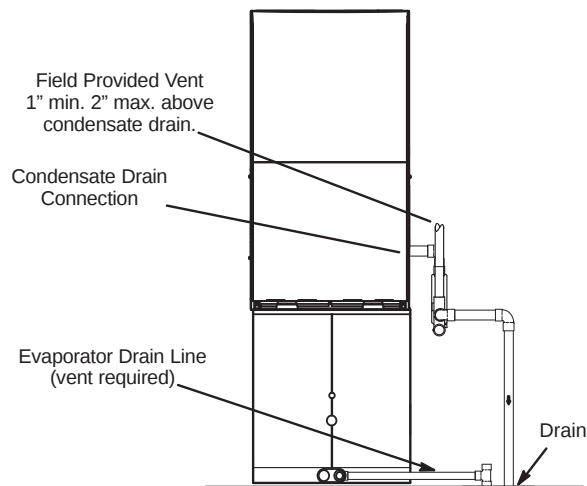

Figure 41. Unit with Cooling Coil Using Separate Drain
5. **Figure 41** shows the furnace and evaporator coil using a separate drain. If necessary the condensate line from the furnace and evaporator coil can drain together. See **Figure 42**. The field provided vent must be a minimum 1" to a maximum 2" length above the condensate drain outlet connection.